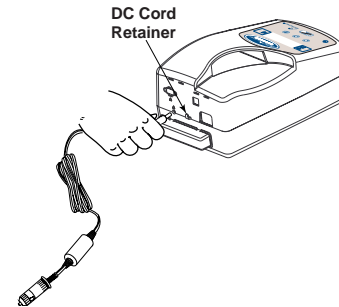

Figure 4-8 Plugging in the DC
- STEP 1** Plug the receptacle end of the DC cord into the DC inlet of the Synchrony as shown in Figure 4-8.